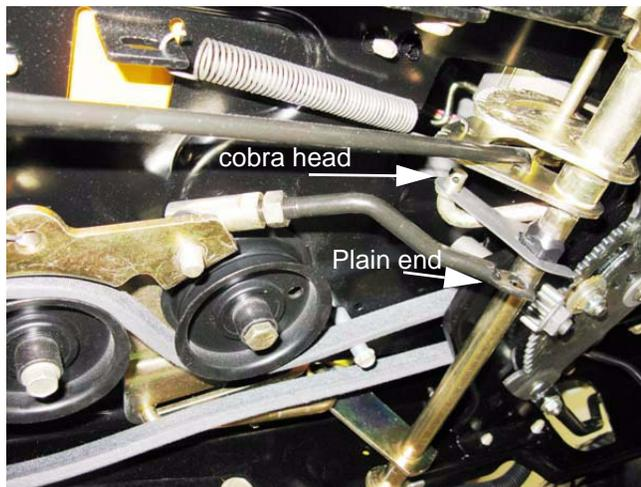

Figure 6.18
5. Remove and discard the cotter pin that holds the plain end of the rod to the cobra head arm on the pedal shaft. See Figure 6.18.